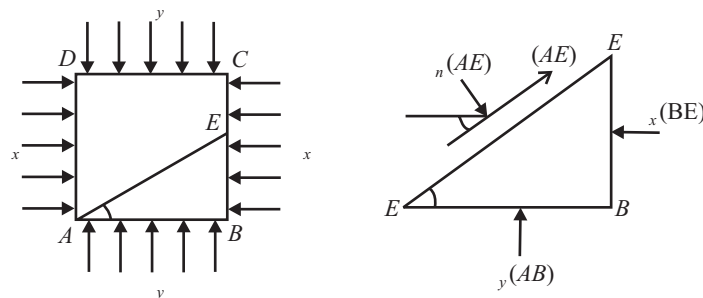

Fig 15.8
Q. 8: Derive the expression for normal and shear stress on a plane AE inclined at an angle B with AB subjected to direct stresses of compressive nature (both) of σ_x and σ_y on two mutually perpendicular stresses as shown in fig 15.8.